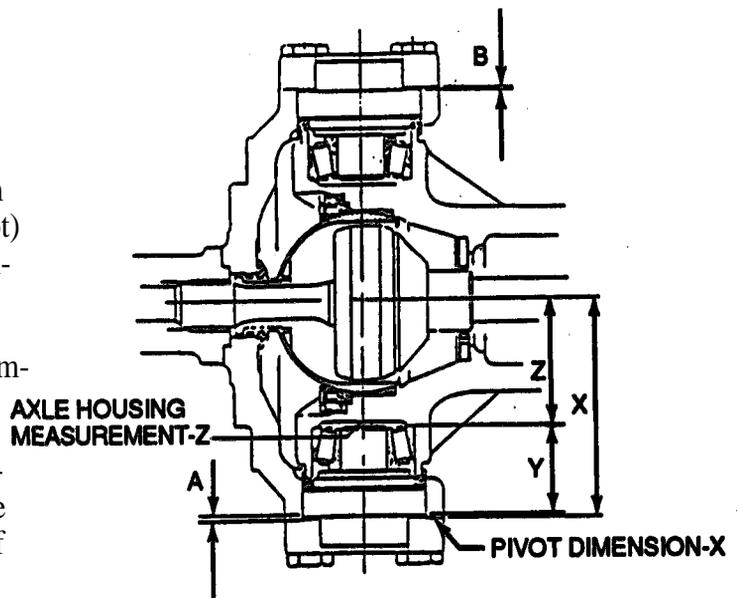

Figure 12-4
- a. Read pivot dimension - X (distance from lower machined surface to center of pivot) on lower face of pivot and spindle assembly Figure 12-4).